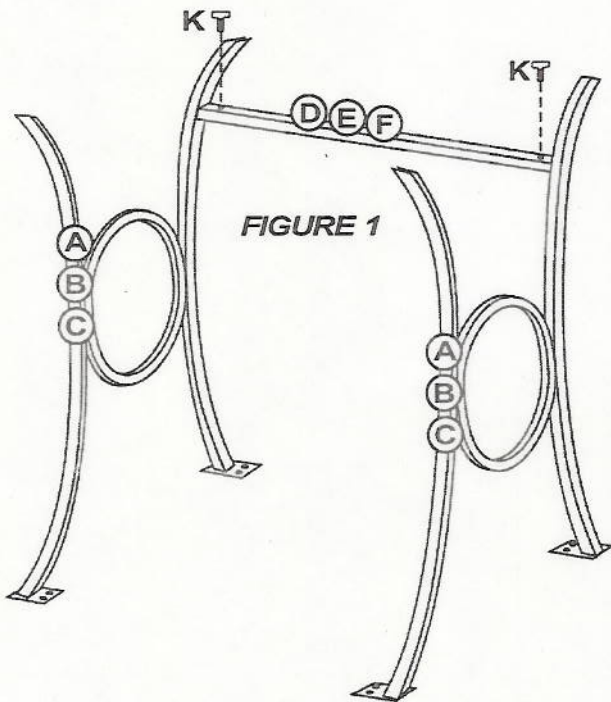

FIGURE 1
Begin assembly by first attaching each Small Metal Brace (D) to each Small Leg Panel (A) using 1 Allen Bolt (K) per each end. Do not fully tighten bolts. See Figure 1.